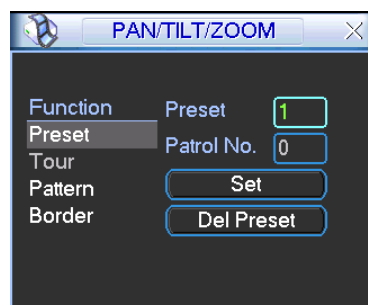
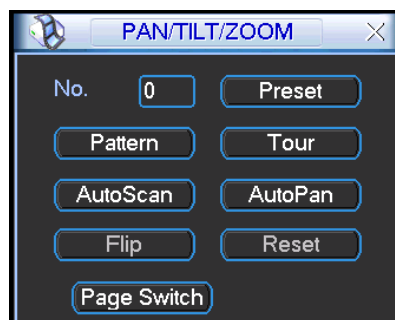

Figure 4-40
Figure 4-41
In Figure 4-37, please click the “set” button. The interface is shown as below. See Figure 4-40. Here you can set the following items:
In Figure 4-37, click page switch button, the interface is shown as in Figure 4-41. Here you can activate the following functions:
- The following setups are usually operated in the Figure 4-37, Figure 4-40 and Figure 4-41.
In Figure 4-40, click preset button and input preset number. The interface is shown as in Figure 4-42.
In Figure 4-41, please input preset number in the No. blank, and click preset button.
In Figure 4-40, input patrol (tour) number in the No. blank and click patrol button
In Figure 4-40, click pattern button and then click “begin” button. The interface is shown as in Figure 4-44. Then you can go to Figure 4-37 X to modify zoom, focus, and iris.
In Figure 4-41, click “Auto Scan” button, the system begins auto scan. Correspondingly, the auto scan button becomes Stop button. Click stop button to terminate scan operation.
In Figure 4-41, click page switch button, you can see an interface is shown as below. See Figure 4-46. Here you can set auxiliary function. The aux value has relationship with the Aux button of the decoder.